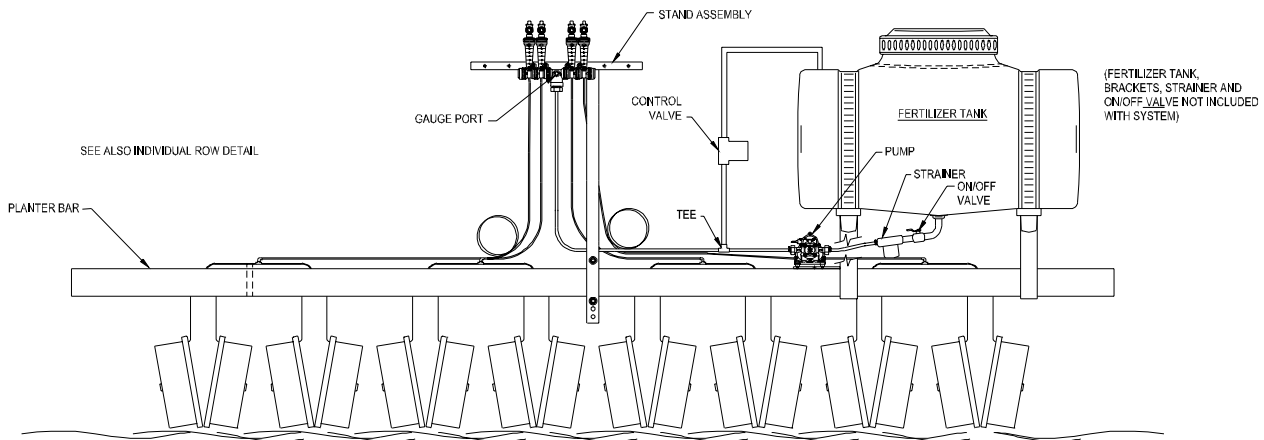

FIGURE 6
2. Install the strainer between the inlet of the pump and the on/off hand valve. Ref. figure 6.